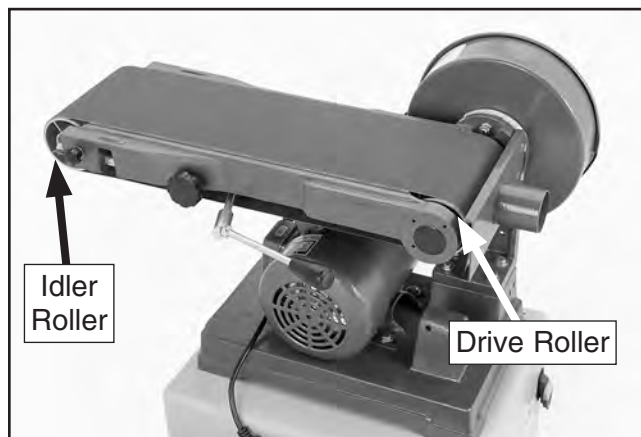

Figure 38. Belt installed onto idler and drive rollers.
20. Move the quick release lever toward the motor, slide the sanding belt over the lever and onto the idler roller and drive rollers, then center the belt on the rollers (see **Figure 38**).